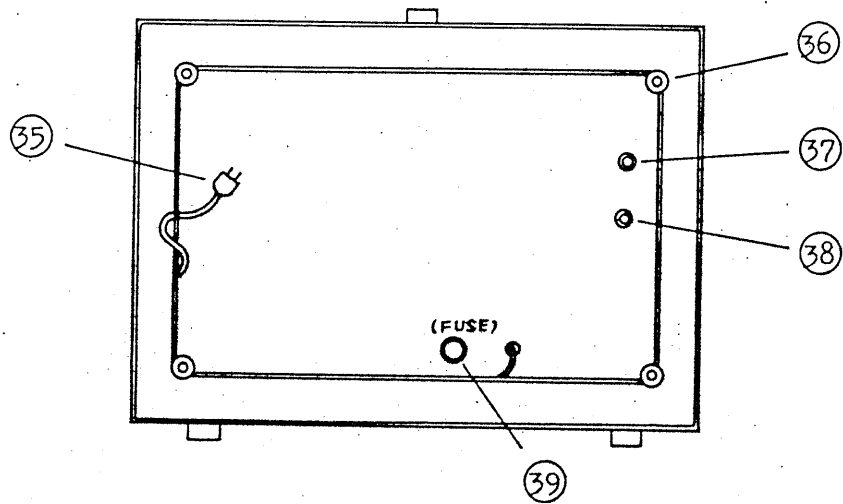

Fig. 2
3.2 Explanation of Rear Panel (See Fig. 2)
Disconnect the shorting bar of the external intensity modulation signal input terminal (Z-AXIS INPUT ③⑦, see Fig. 2), and apply an intensity modulation signal between Z-AXIS INPUT terminal ③⑦ and GND terminal ③⑧. When the intensity modulation is not used, keep the shorting bar connected.